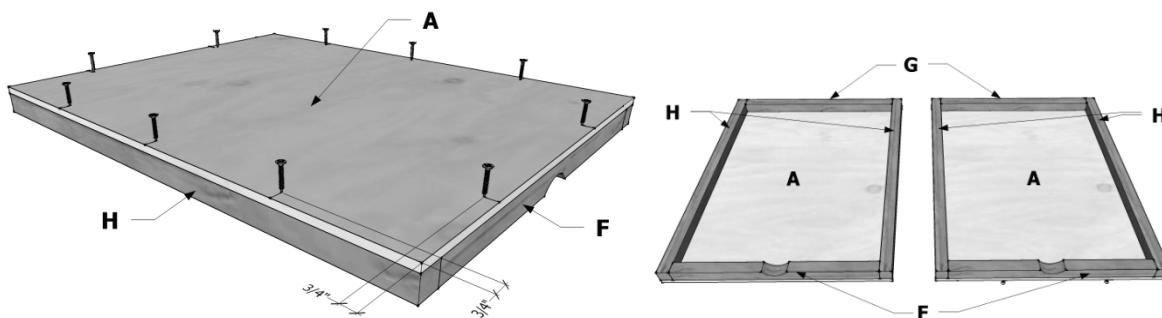

Fig. 2 – Fastening diagram for cap and base (A). 2x2s flush with edge, spacing screws evenly.
a. **Cap & Base:** **Using 16) 1 5/8" screws, fasten** all 25" long 2x2s and 36"long 2x2s (parts F, G, H) to each of the 28"x36" panels (part A), screwing through the plywood into 2x2s. *The notch on part F should be facing away from plywood. This should make 2 identical pieces: one will serve as a cap and one as the base (fig. 2)* **Be careful!** that sharp points are not exposed inside as this might puncture liner.
Lay Base (part A) on flat surface, 2x2s up. (like right side of fig. 2)